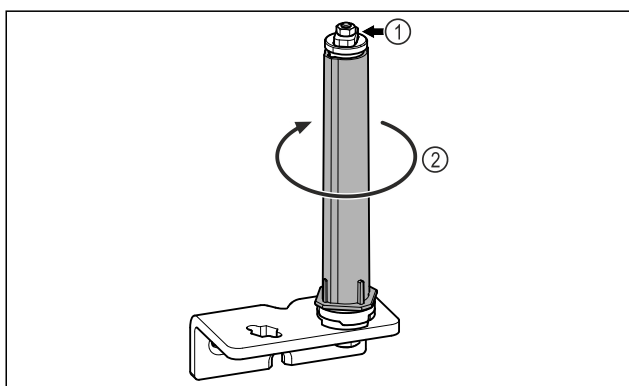

Fig. 23
- Do not disassemble the door locking system *Fig. 23 (1)*.
- Turn the locking system *Fig. 23 (2)* until it clicks.